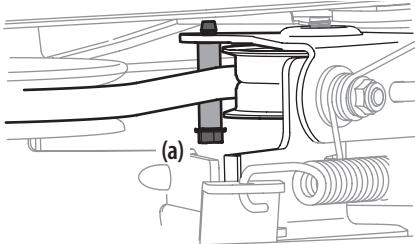

Figure 34
6. Remove the belt keeper (30" decks only) by removing the hex bolt (a) that secures it. See Figure 34.